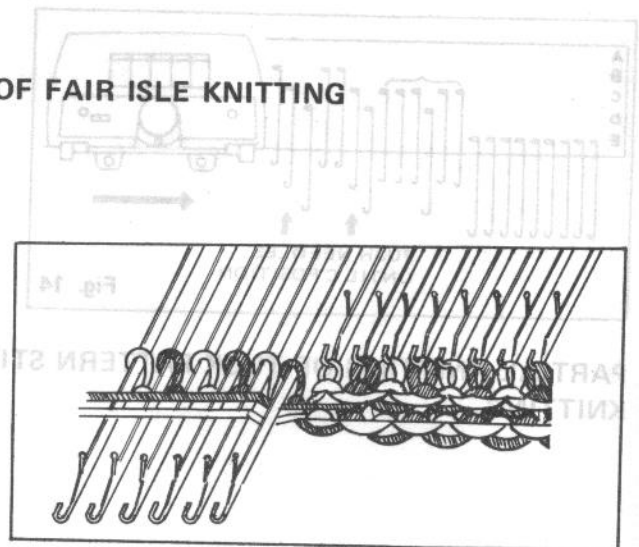

Fig. 19
3. Pass the knitting yarn underneath the needle next to the last needle knitted, and on top of the holding needles. See Fig. 19.